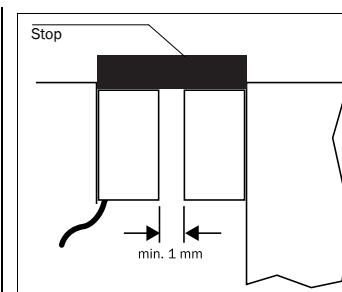

Fig. 6: Mounting example for safety switch and actuator
- Fit safety switch and actuating element such that they do not touch each other: Minimum distance between the front faces with the guard closed 1 mm (Fig. 6).
- Fit an additional stop for moving parts of the guard (Fig. 6).